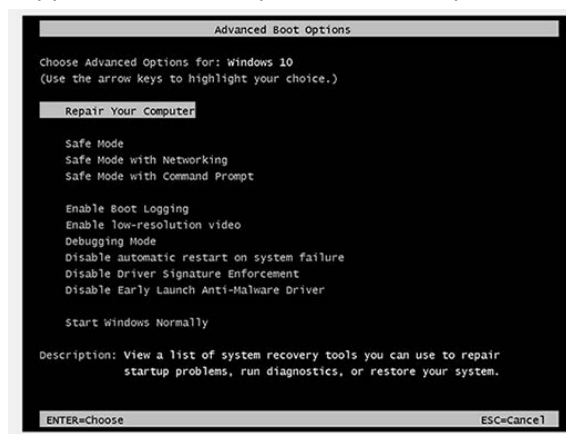

Figure 1 Advanced Boot options
4. The menu displayed in Figure 1 should appear on the screen after a few seconds. If the menu does not appear, the system will continue until the Windows restart is complete. If this happens, restart this procedure at step 1.